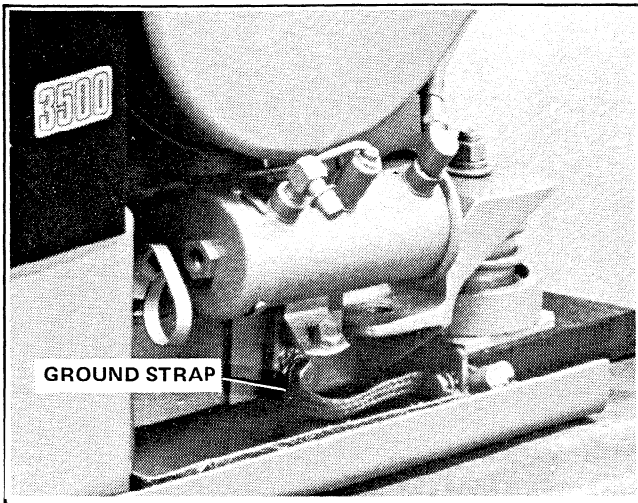

Figure 6-3. Generator Ground Strap (3.5KW Shown)
2. Disconnect the generator ground strap at the tray (Figure 6-3 or 6-4).